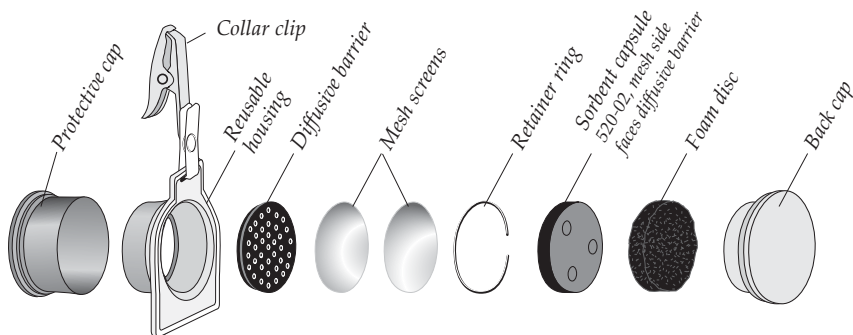

Figure 1. Complete Assembly of Passive Sampler for Elemental Mercury
5. Reassemble sampler housing for storage, without the sorbent capsule or foam disc (see Figure 1).